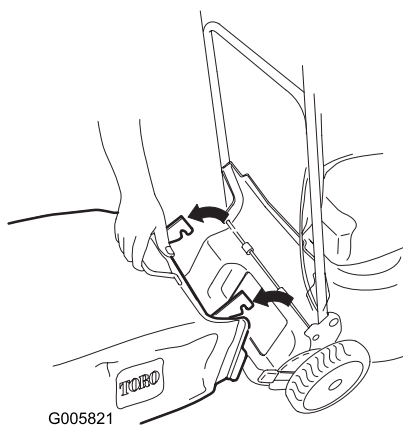

Figure 30
5. Remove the bag (Figure 30).